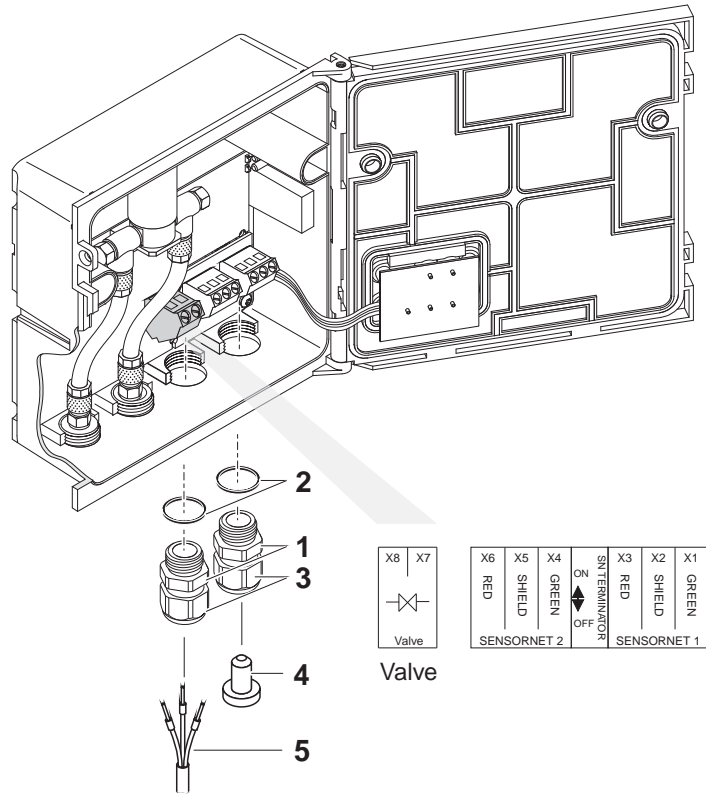

Fig. 3-1 Clamping termination for the valve control line
- 2 | Screw the cable gland (pos. 1 in Fig. 3-1) with the sealing ring (pos. 2) into the left connection opening.
- 3 | Loosen the coupling ring (pos. 3 in Fig. 3-1).
- 5 | Connect the wires of the valve control line (pos. 5 in Fig. 3-1) to the clamping termination for the valve control line. While doing so, pay attention to the specifications on the label located under the terminal strip.
- 6 | Tighten the coupling ring (pos. 3 in Fig. 3-1).
8	Screw a cable gland with sealing ring into the free opening and close it with the enclosed blind plug (pos. 4 in Fig. 3-1) if it is not used.
9	Tighten the coupling ring (pos. 3 in Fig. 3-1).